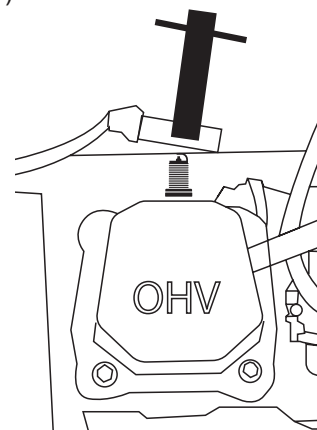

Figure 17: Remove Spark Plug
6. Using the spark plug socket wrench provided, remove the spark plug from the cylinder head (see Figure 17).